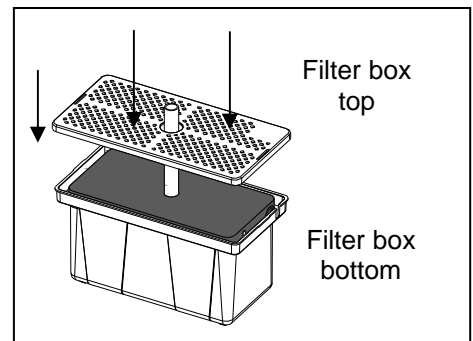

Fig. 8
8. Place the filter box top on top of the filter box bottom. It should snap closed. Fig. 8